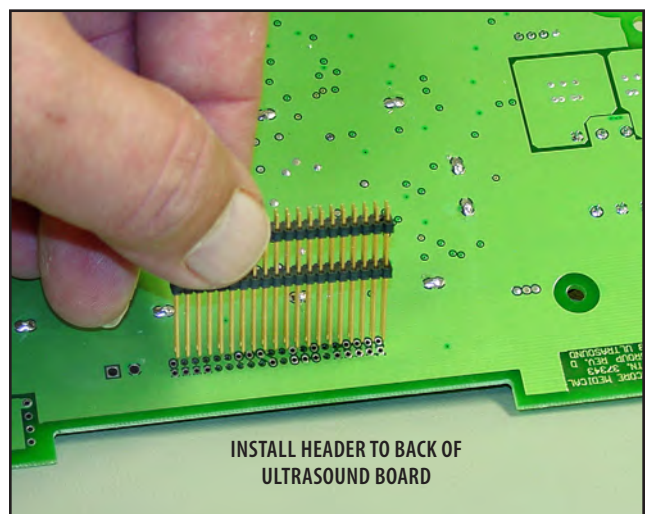

FIGURE 6.17
7. Install 40 Pin Header to back of new Ultrasound Board. Make certain it is completely seated against board. **See Figure 6.17.**